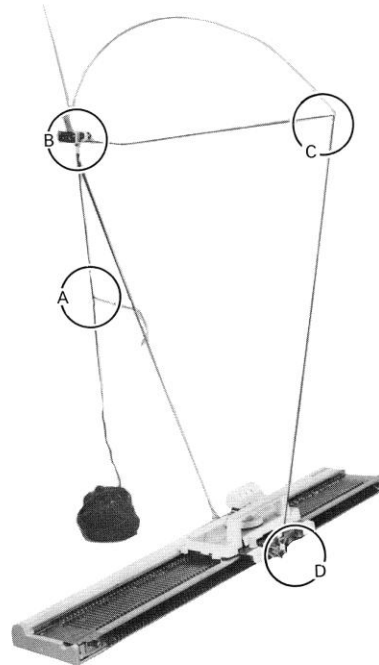
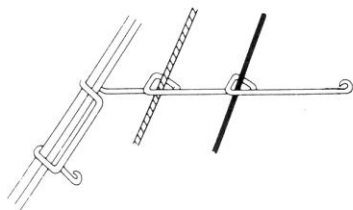
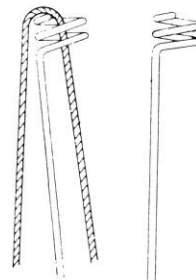
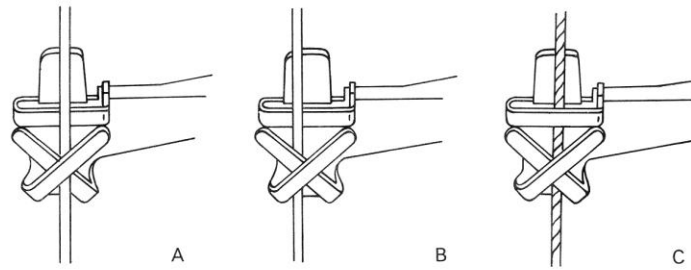

Fig.30
Fig.31
Fig.36
Fig.37
- a) through one of the eyelets of the yarn guide wire. (Fig.30-A and Fig.31)
- b) up through yarn trap unit. (Fig.30-B)
- c) through the pigtail at the end of the long wire take-up arm. (Fig.30-C & Fig.36)
d) down to the carriage feeder (Fig.30-D) in the following sequence: Fig.37-A, B & C.
The function of the overhead feeder is to guide the wool from ball or cone to the carriage feeder and by means of the yarn trap unit (Fig.30-B) to bend the long wire take-up arm downwards during knitting as shown in Fig.30-C.